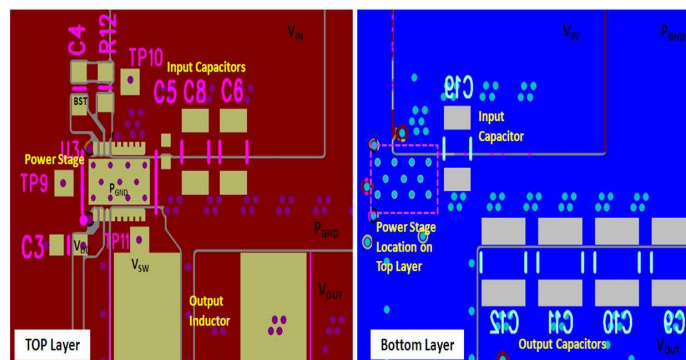

Figure 16. Recommended PCB Layout (Top Down View)
- The placement of the input capacitors relative to V_{IN} and P_{GND} pins of CSD97395Q4M device should have the highest priority during the component placement routine. It is critical to minimize these node lengths. As such, ceramic input capacitors need to be placed as close as possible to the V_{IN} and P_{GND} pins (see Figure 16). The example in Figure 16 uses 1 × 1 nF 0402 25 V and 3 × 10 μF 1206 25 V ceramic capacitors (TDK Part # C3216X5R1C106KT or equivalent). Notice there are ceramic capacitors on both sides of the board with an appropriate amount of vias interconnecting both layers. In terms of priority of placement next to the Power Stage C5, C8 and C6, C19 should follow in order.
- Use the smallest drill size allowed in your design. The example in Figure 16 uses vias with a 10 mil drill hole and a 16 mil capture pad.